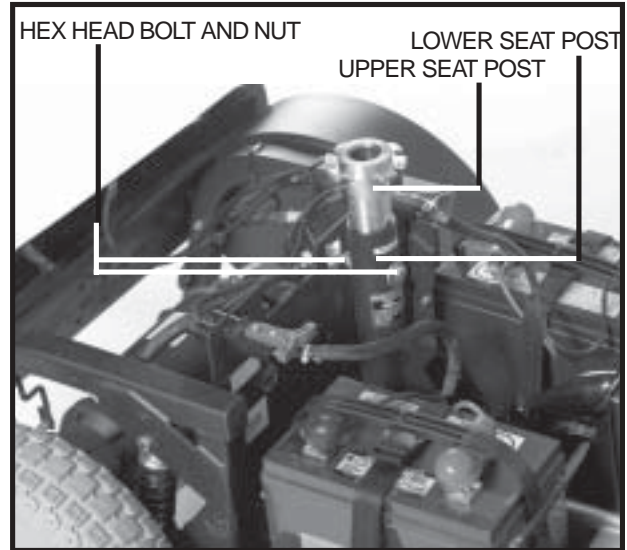

Figure 14. Seat Height Adjustment
3. Use two 17-mm spanners to loosen and remove the hex head bolt and nut. See figure 14.